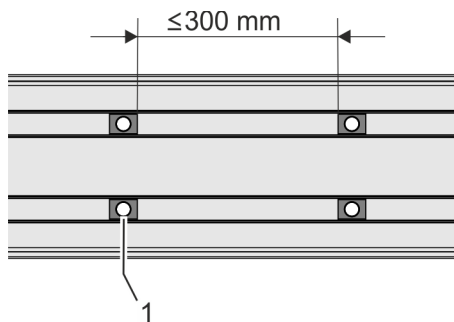

Fig. 23: Positioning slot stones
3. → Ensure that a distance of 300 mm between the slot stones (Fig. 23/1) is not exceeded at maximum load.